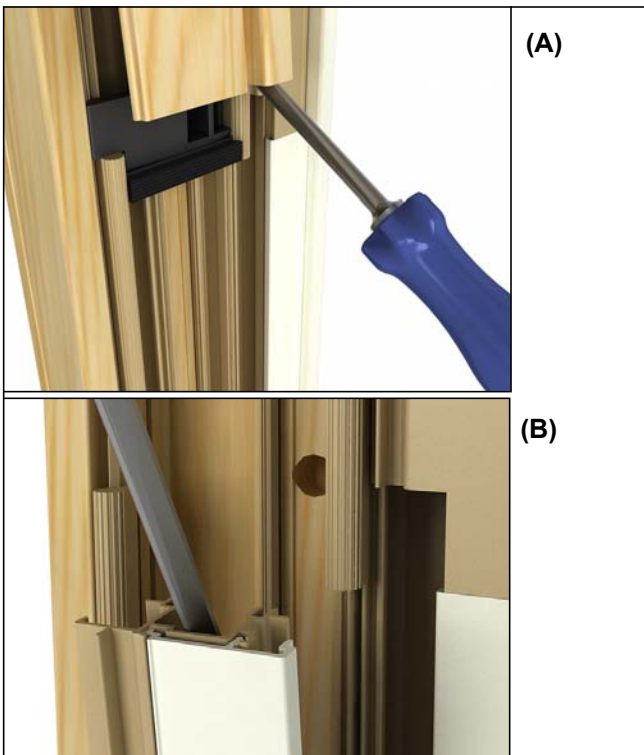

Figure 5
1. Remove the interior wood cover (figure 5A), exterior mid-clad cover and vinyl assembly for access to installation holes (figure 5B). Use stiff putty knife or small flathead screwdriver to carefully remove the covers. See figure 5.